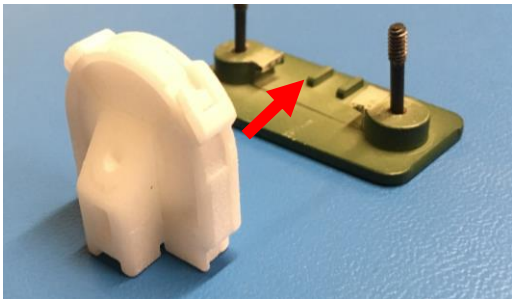

Figure 17. Slide filter Cassette onto filter Cassette cover
8. Slide the filter Cassette into the Cassette cover. Please note that the cassette can only be slid on one way. See **Figure 17**.